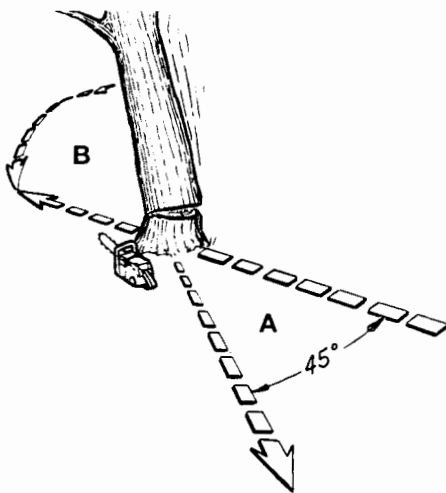

Fig. 8
WARNING: A retreat path (A) should be planned and cleared as necessary before cuts are started. The retreat path should extend back and diagonally to the rear of the expected line of fall, as illustrated in Fig. 8.
WARNING: As the felling cut gets close to the hinge, the tree should begin to fall. When tree begins to fall, remove saw from cut, stop engine, put chain saw down, and leave area along retreat path (Fig. 8).